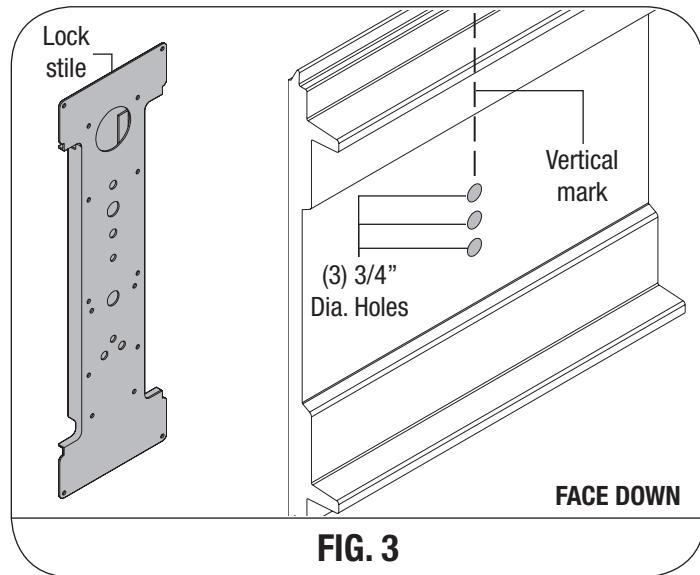

FIG. 3
5120/5145/6100/9100/9405 & 9600 DOORS, (SEE FIG. 3): Place the lock section face up on (2) padded sawhorses for a single car door or (3) padded sawhorses for a double car door. Locate the middle of the center stile, measure the distance from the end of the section to the middle of the center stile. Turn the section face down, transfer the measurement and mark a light vertical line. Align the center of the lock stile with vertical mark, use the lock stile as a template to mark the (3) holes, remove the lock stile and drill (3) $3/4$ " diameter holes through the section.